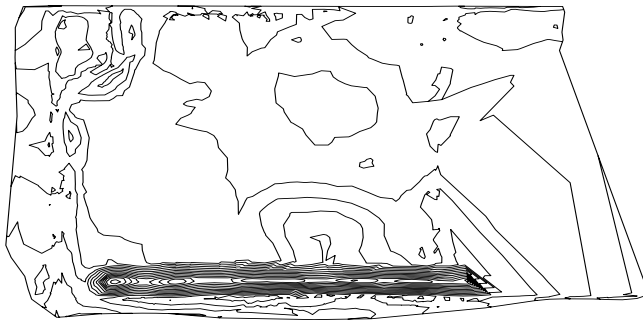

Figure 3-56 The **EG Surface** displayed in the drawing area
1. Enter **ZE** in the command line and then press ENTER; the surface will be displayed with a surface border, major, and minor contours, as shown in Figure 3-56. This is due to the default surface style settings of the template file.